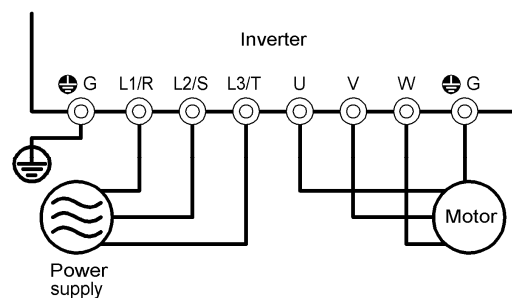

Figure 4.1-2 Connection of Main Circuit Terminals
- (1) Check that the wiring is correct. Especially check the wiring to the inverter input terminals L1/R, L2/S and L3/T and output terminals U, V, and W. Also check that the grounding wires are connected to the grounding terminals (⊕ G) correctly. (See Figure 4.1-2.)